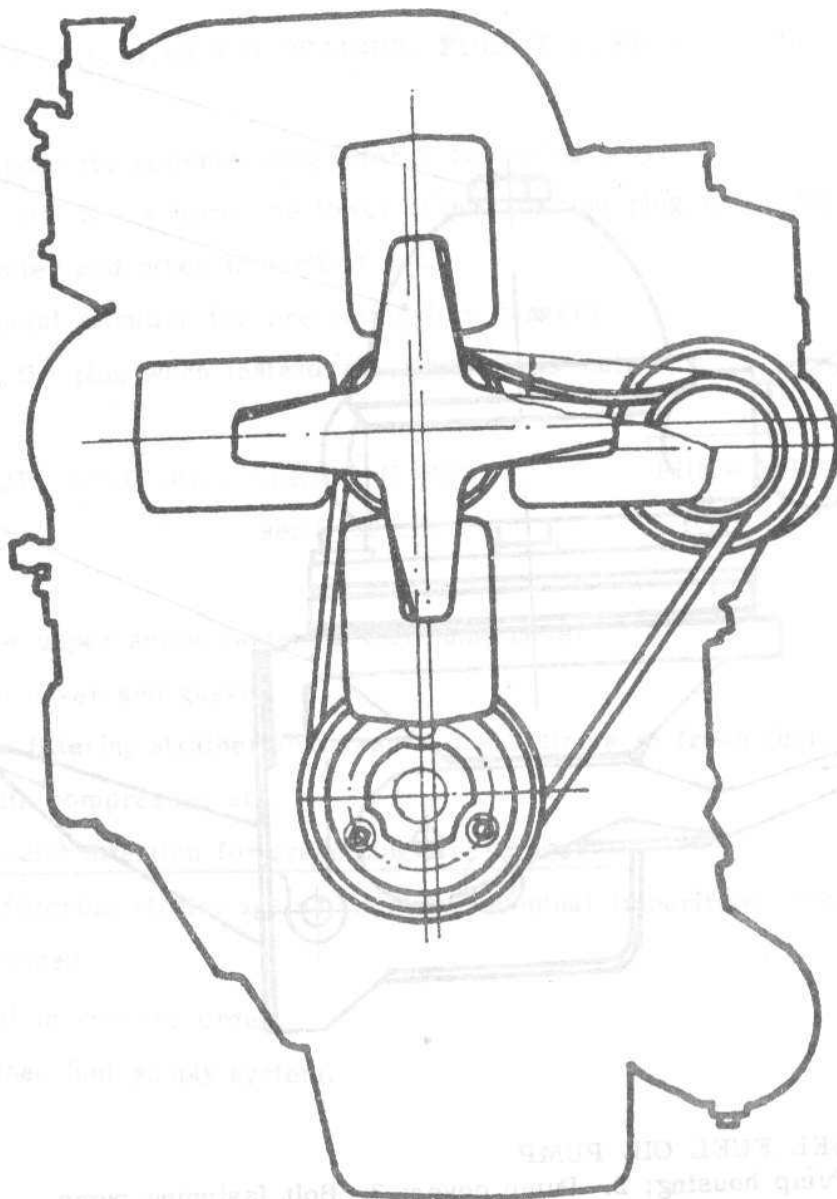

Fig.2.29. CHECKING ELEMENT FASTENING ON D-127 ENGINE
- Press the V-belt, in the area between cooling fan and alternator pulleys (in the upper engine area - see fig.2.29), with a force of about 5 - 7 daN (kg); if the belt tension is correct the belt dip should be of 12 mm. If the dip is more than 12 mm, the V-belt should be tensioned.